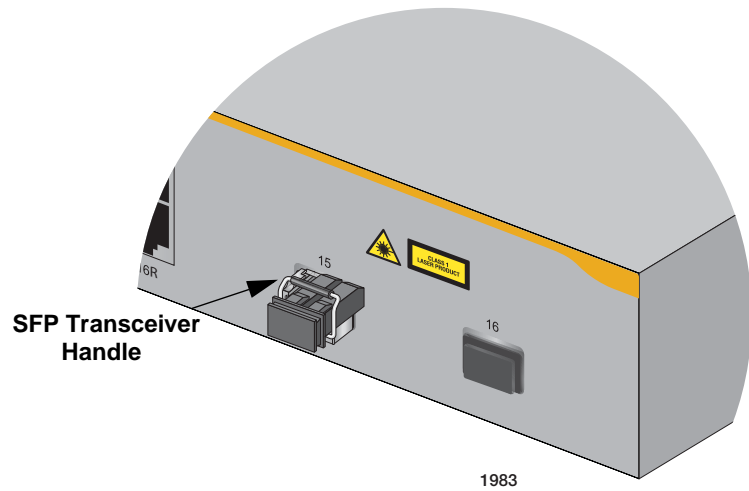

Figure 30. Positioning the SFP Handle in the Upright Position
6. Verify that the handle on the transceiver is in the upright position, as shown in Figure 30. This secures the transceiver and prevents it from being dislodged from the slot.